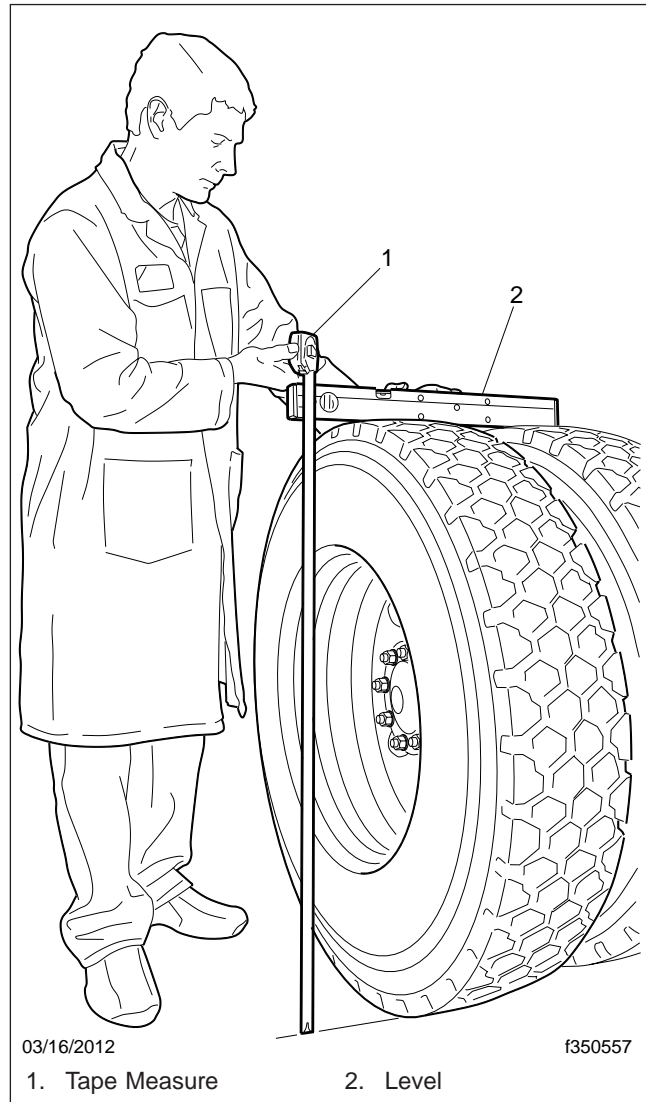

Fig. 2, Measuring Tire Diameter
3. Place a level across the top center of a tire, and using a tape measure, measure the tire diameter. See Fig. 2.